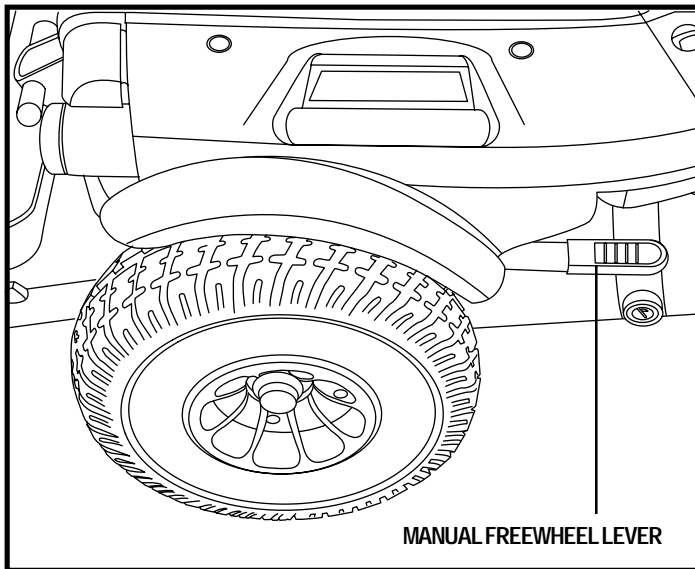

Figure 9. Drive Mode (Drive Engaged)
2. Push the two levers inward to engage the drive motors. See figure 9.